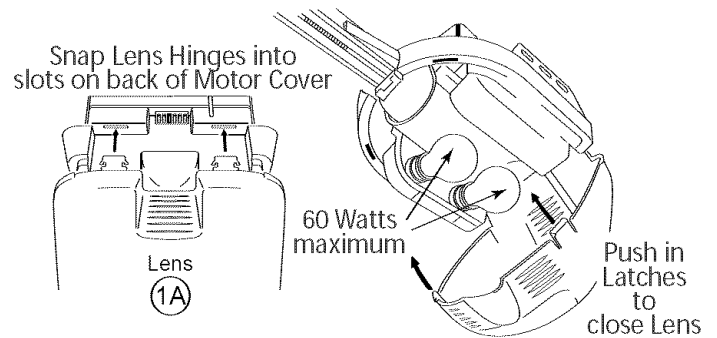

Figure MA-4 Install Lens Cover and Light Bulbs
- A** Install two 60 Watt light bulbs (not included) into Light Sockets (**Figure MA-4**):